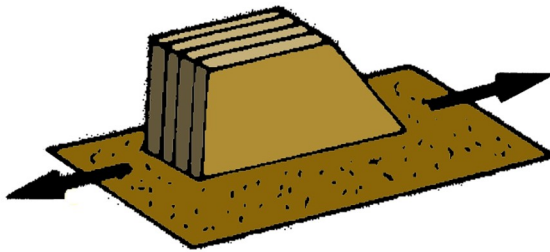

Figure 6
- **Step 10** Gently round over the leading and trailing edges of all fins; do not round over the root edges or the tip edges. Square up the root edges so that they will be flat to the body tube when attached. See Fig. 6.
- **Step 12** Copy the two (2) Fin Alignment Guides to a piece of cardstock, or a piece of cardboard, then remove the area inside the lines. Separate the guides into individual pieces. Trim off the points at the base of each fin to prevent glue from attaching to the guide later.